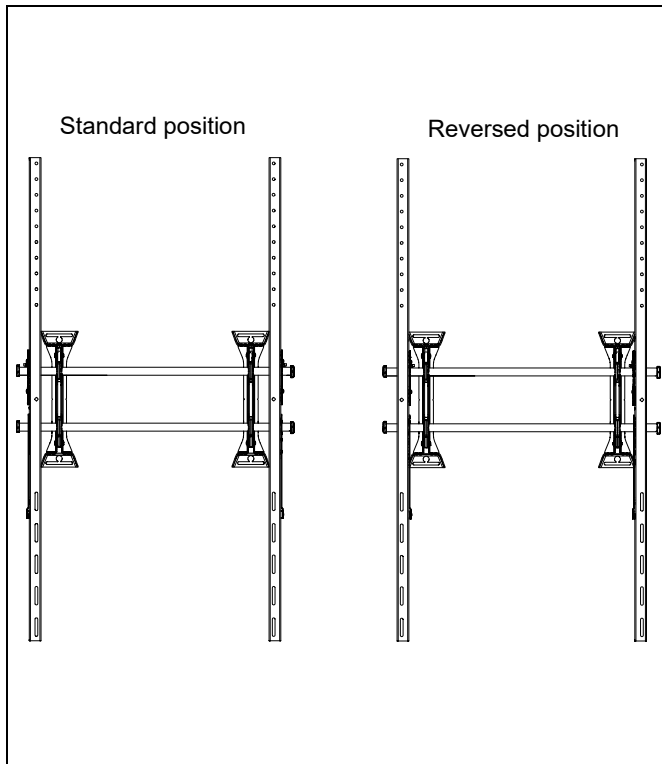

Figure 8
3. If necessary, the interface brackets may be reversed. (See Figure 8)